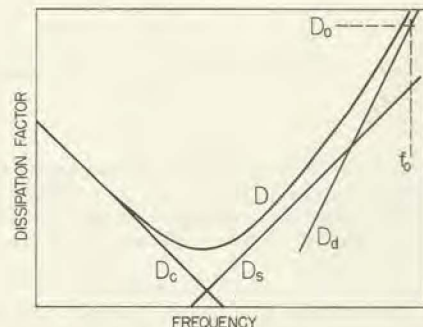

Figure 2. Dissipation factor variation with frequency showing the relative contributions of the several loss components for air-core inductors.
**Q Changes** The storage factor,  $Q = \omega L/R$ , of an inductor is simply proportional to frequency when  $L$  and  $R$  are constant. But, as noted above,  $L$  can vary with frequency, and the losses are also functions of frequency. The components of loss are best described in terms of dissipation factor,  $D = 1/Q$ , since the total  $D$  is the sum of the component  $D$ 's and these can be plotted as straight lines in logarithmic co-ordinates, as shown in Figure 2.
The total dissipation factor  $D$  (Figure 2) has a minimum value at a frequency usually below the resonance frequency  $f_o$ . At low frequencies the  $D$  or  $Q$  is determined by the series resistance; at high frequencies the eddy-current and dielectric losses predominate.
The higher permeability of an iron core makes possible lower values of  $D_c$  and  $D_s$ , while  $f_o$  is slightly reduced and  $D_o$  is not changed. The core adds three more components to the winding losses shown in Figure 2. Eddy currents in the core produce a component,  $D_c$ , which usually exceeds  $D_s$  and, like  $D_s$ , is proportional to frequency. The component  $D_h$ , from hysteresis loss in the core, is independent of frequency, and, since it is proportional to magnetizing force, it becomes negligible when the current approaches zero. A third component,  $D_r$ , from residual losses in the core, is also constant with frequency and is usually relatively small. The effects of these losses are shown on the following pages by plots of  $Q$  versus frequency for the various inductors.